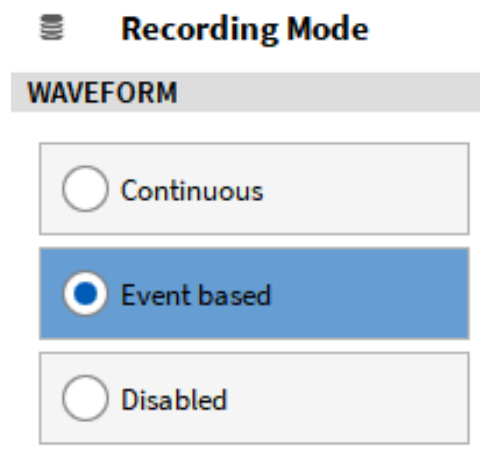

Fig. 9.31: Event based Waveform Recording selection
- Select *Event based Waveform Recording* as Recording Mode (see Fig. 9.31):